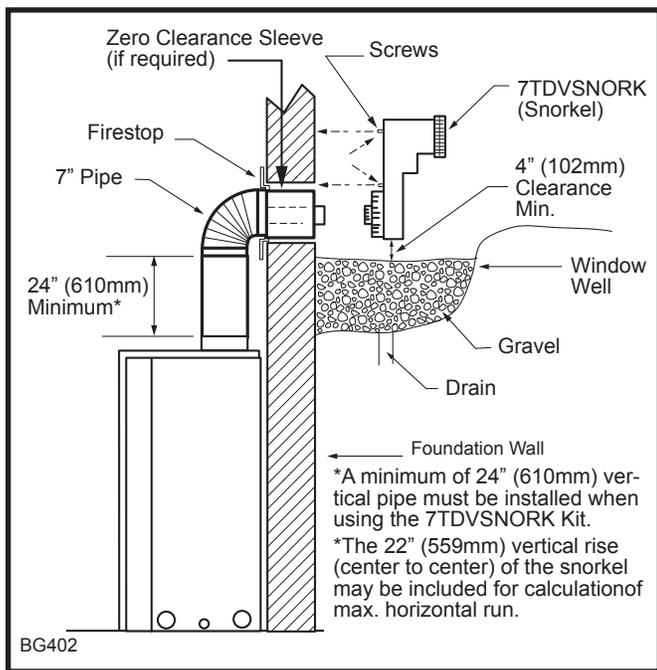

Fig. 48 Below grade installation.
2. Remove soil to a depth of approximately 16" (406 mm) below base of snorkel. Install drain pipe. Install window well (not supplied). Refill hole with 12" (305mm) of coarse gravel leaving a clearance of approximately 4" (102 mm) below snorkel. (Fig. 48)
7. Level the soil to maintain a 4" (102 mm) clearance below snorkel. (Fig. 48)